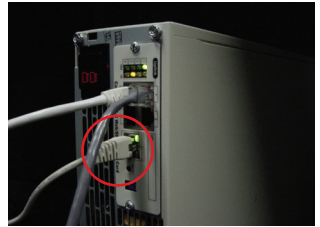

Figure 5. Install Configuration Cable
1. Plug the RJ-45 end of the supplied configuration cable (labeled “PC”) into the COM port on the card (see Figure 5).